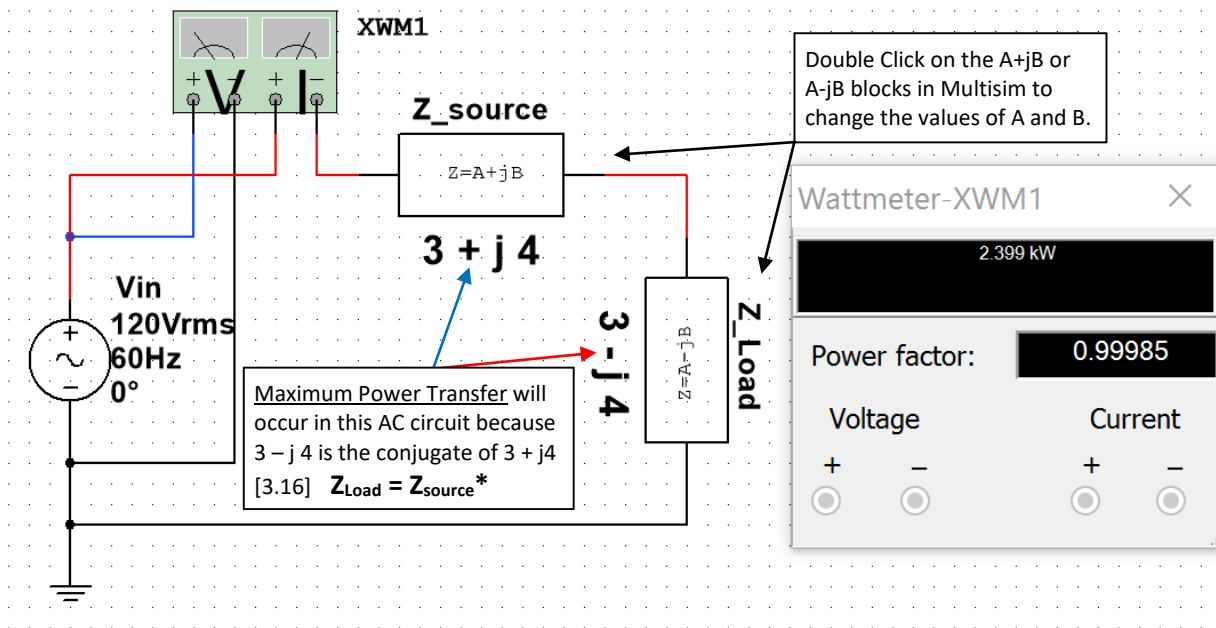

Figure 3.25: Circuit including Multisim Z_loads for Example 3.10.
- The Load impedance must be $3 - j 4$ for maximum power transfer (as shown in Figure 3.25).